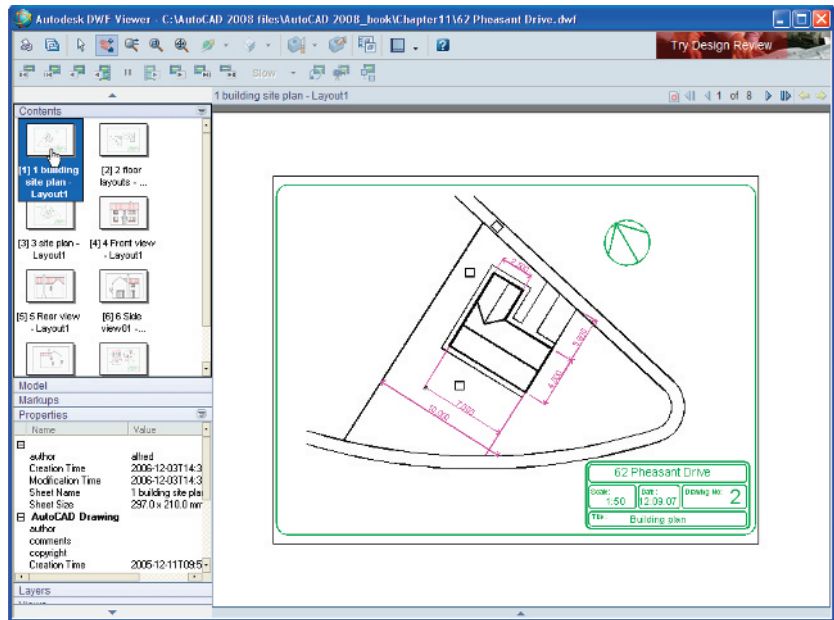

Fig. 11.13 The **Autodesk DWF Viewer** showing details of the **62 Pheasant Drive.dwf** file
2. The **Autodesk DWF Viewer** window appears showing the **62 Pheasant Drive.dwf** file (Fig. 11.13). *Click* in any of the icons of the thumbnails of the drawings in the viewer and the drawing appears in the right-hand area of the viewer.